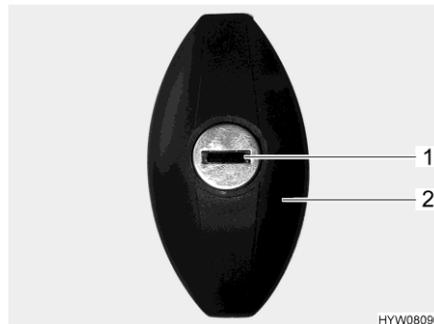

Fig. 34 Flap lock (elliptical-shaped, closed)
- Insert key into locking cylinder (Fig. 34,1) and turn one half turn in an anticlockwise direction. The lock handle (Fig. 34,2) snaps out.